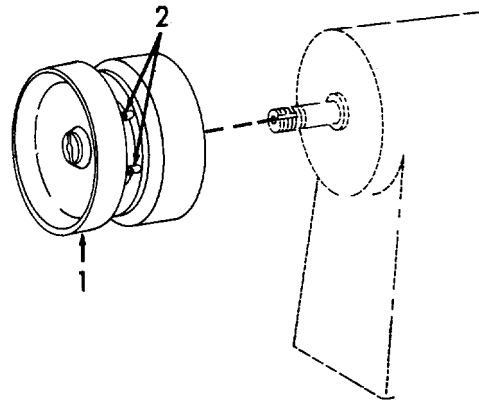

Figure 6-113. Pulley, Installation.
e. *Installation (Refer to Figure 6-113).*
- (1) Slide the pulley (1) into position on the shaft. Be sure that the setscrews are aligned with the grooves in the shaft.
- (2) Tighten the setscrews (2) using a 1/8-inch hex allen wrench.